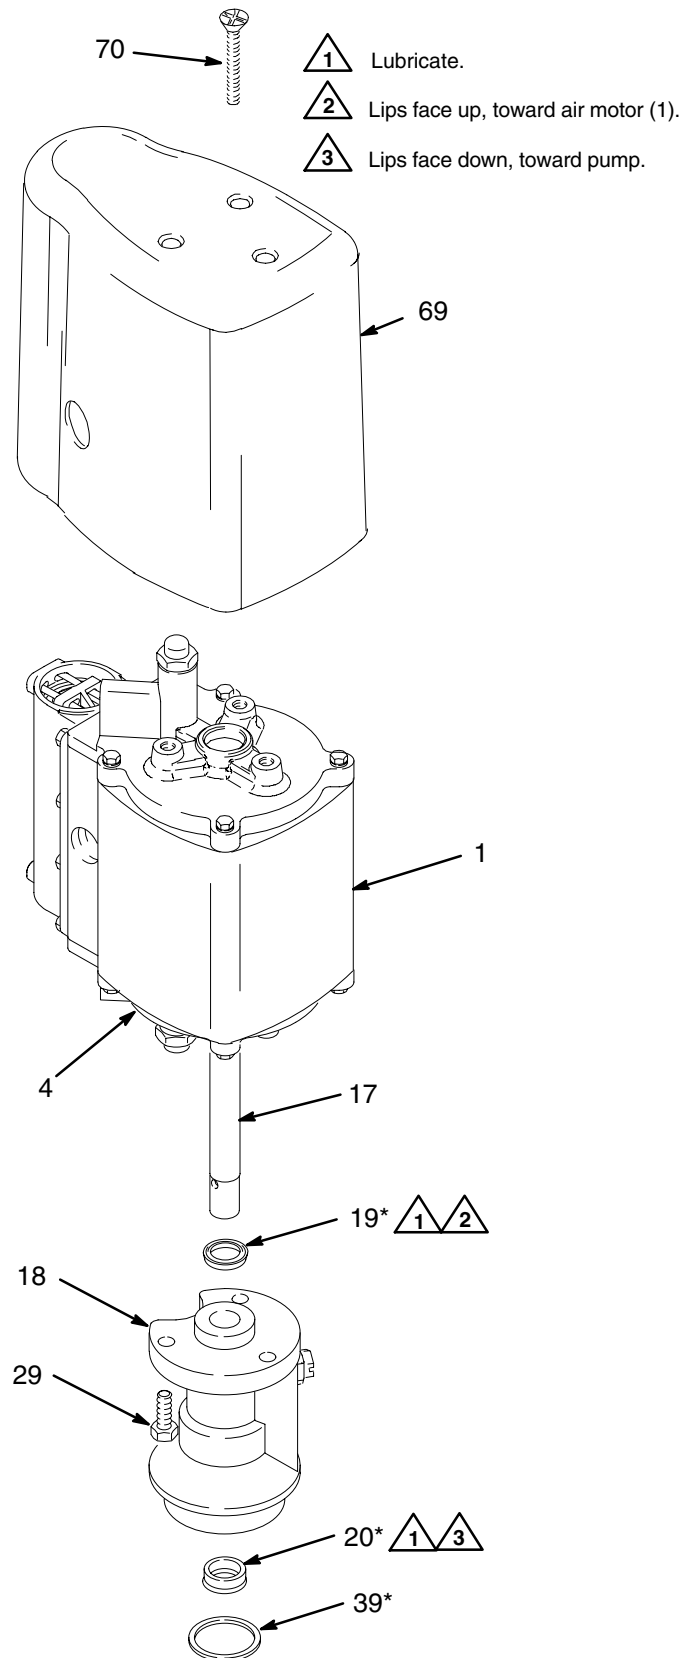

Fig. 10
1. Remove the air motor cover (69).
2. Disconnect the air motor (1) from the displacement pump, as explained on page 15.
3. Remove the three screws (29) holding the outlet housing (18) to the bottom cylinder cap (4). Pull the housing off the cap, being careful not to damage the piston rod (17). See Fig. 10.
4. Remove the u-cup packing from the cap (4).
5. Remove the copper gasket (39) and the u-cup packing (20) from the outlet housing (18).
1. Lubricate the u-cup packing (19*) and install it in the bottom cylinder cap (4), with the lips facing up toward the air motor (1). See Fig. 10.
2. Grease and install the u-cup packing (20*) and the copper gasket (39*) in the outlet housing (18). The lips of the u-cup must be facing down, toward the pump.
3. Install the housing (18) on the cap (4).
4. Reconnect the air motor (1) to the displacement pump, as explained on page 15.
5. Replace the air motor cover (69).